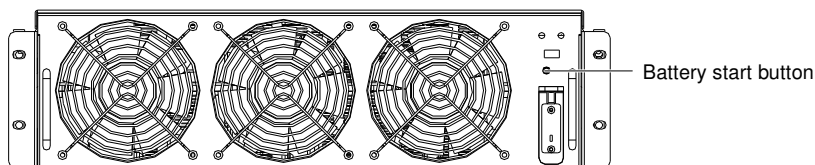

Fig. 6-1: Location of battery start button
2. Press the battery start button (see Fig. 6-1) on the front panel of any power module.